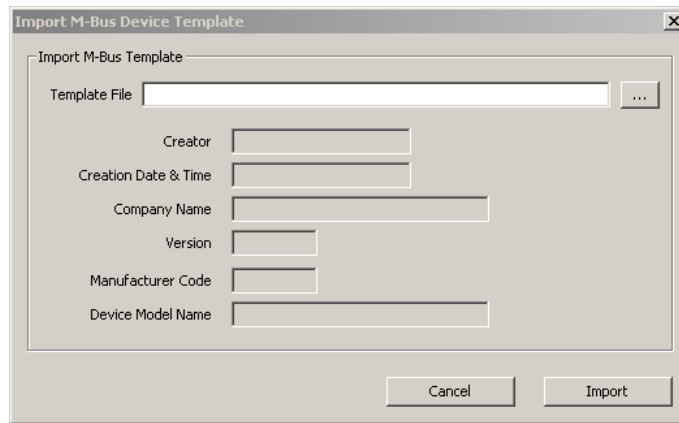

Figure 131: Import M-Bus Device Template dialog.
2. This opens the **Import M-Bus Device Template** dialog shown in Figure 131.